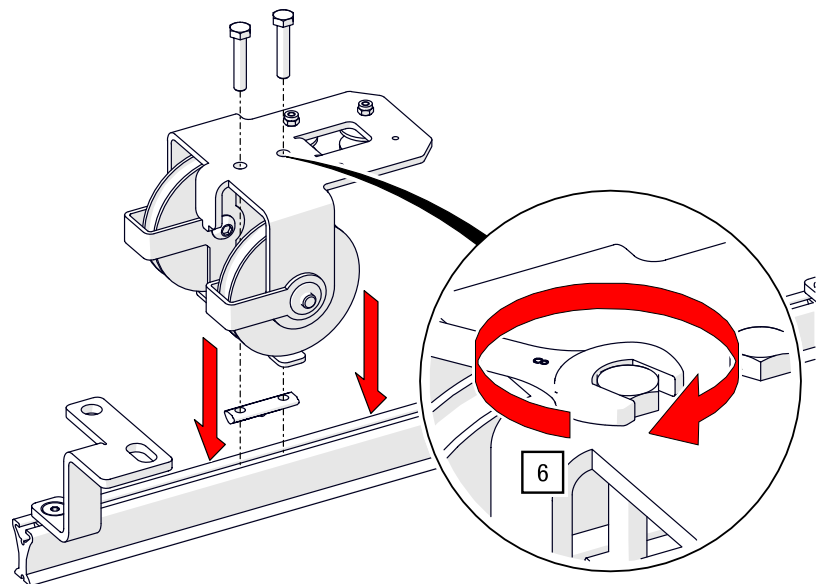

Fig. 75: Top cord operation – Mount deflection pulley
6. Position the deflection pulley at the desired position and mount it using an open-end wrench AF 8 (see Fig. 75).